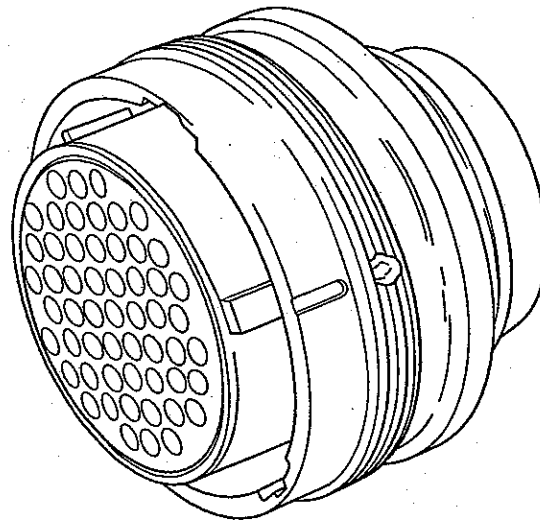

Fig 16 469 Push-pull plug, general view
13.1 The 469 push-pull plug (Fig 16) with crimped type contacts permits relatively rapid locking and unlocking of plug to receptacle. The 469 push-pull plug will mate with all connectors in the 460 series with the exception of the 466 straight plug.